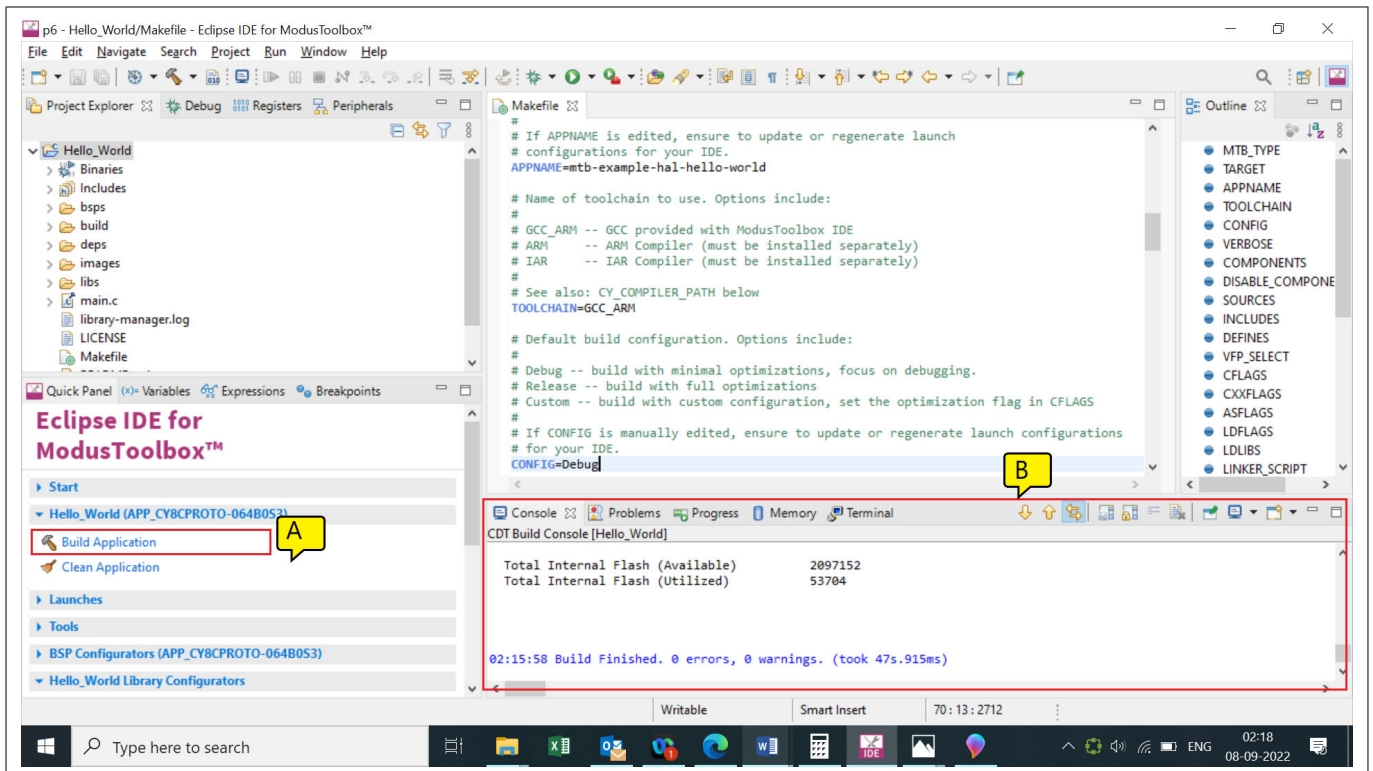

Figure 19 Build the application
3. The **Console view** lists the results of the build operation, as Figure 19 shows.